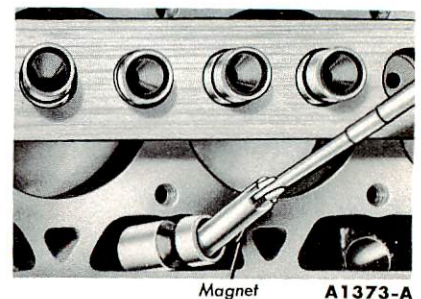

FIG. 24—Valve Tappet Removal
they can be installed in their original location (Fig. 24).
2. Using a magnet, remove and install one tappet at a time (Fig. 24). Apply Lubriplate to each tappet foot and coat the remainder of the tappet with engine oil before installation.